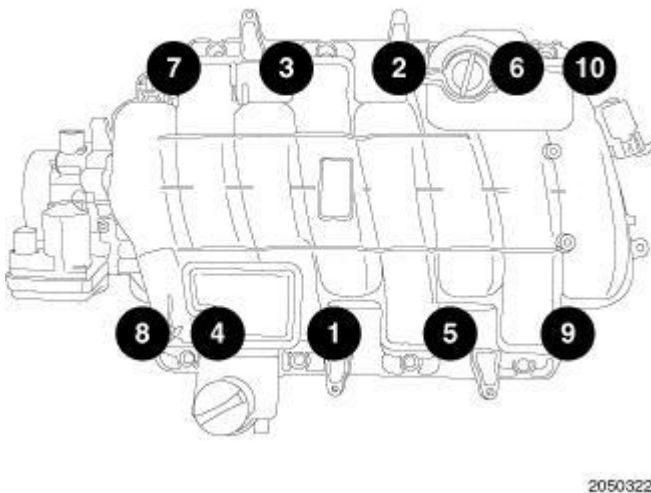

Fig. 245: Intake Manifold Retaining Fasteners Sequence
10. Using the sequence shown in **Fig. 245**, remove the intake manifold retaining fasteners.